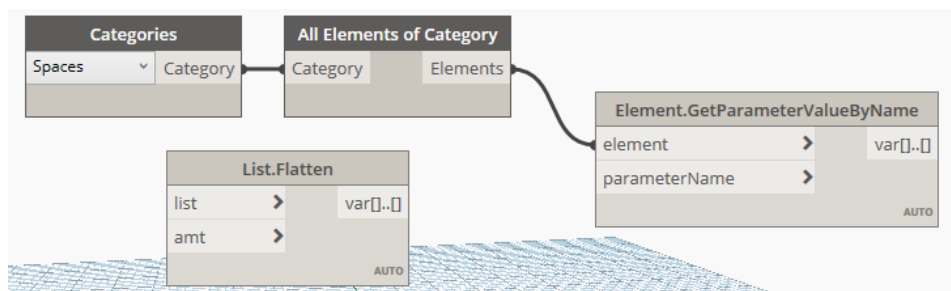

FIGURE 63
15. Wire the nodes as indicated in Figure 63.